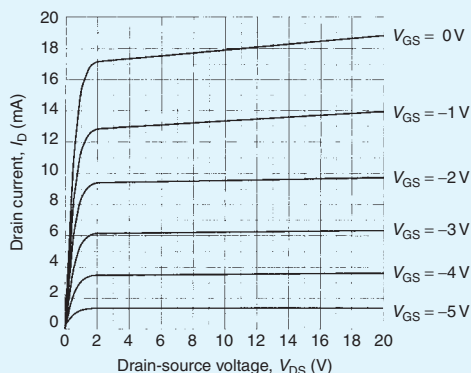

Figure 12.28
7. The output characteristics of a JFET are shown in Fig. 12.28. If this device is used in an amplifier circuit operating from an 18 V supply with a gate-source bias voltage of -3 V and a load resistance of $900\text{ }\Omega$, determine (a) the quiescent values of drain-source voltage and drain current, (b) the peak-peak output voltage when an input voltage of 2 V peak-peak is applied, and (c) the voltage gain of the stage.